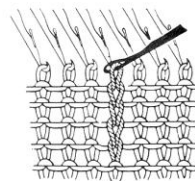

Fig.49-7
- e) Hook the final loop back on the empty needle. (Fig.49-7)